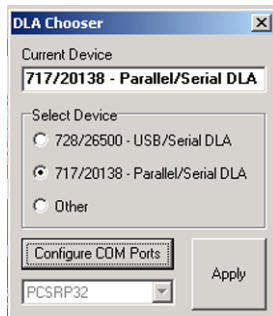

Fig 2.
- 3 Make sure that the correct DLA is selected in the chooser. Click on 'Utilities', DLA Setup. The DLA Chooser window opens. Check the button to match to the Current Device. Click 'Apply'. ⇒ Fig 2. \(□ M5-7\)